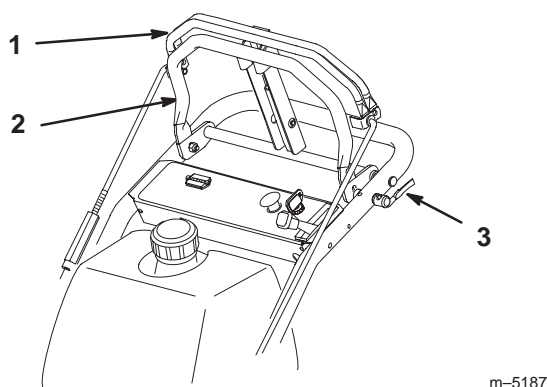

Figure 13
1. Place the quick release levers in the unlock position (Fig. 13).
3. Place the quick release levers in the lock position (Fig. 13).
1. To go forward, slowly press on the upper control bar against the reference bar (Fig. 13).
2. To go straight, apply equal pressure to both ends of the upper control bar (Fig. 13).
3. To turn, release pressure on the upper control bar side toward the direction you want to turn (Fig. 13).
4. Adjust reference bar to maintain a comfortable pre-set ground speed (Fig. 13).
5. To stop, release the upper control bar to stop both wheels (Fig. 13).
1. To go backward, slowly pull the upper control bar rearward (Fig. 13).
3. To turn, release pressure on the upper control bar side away from the direction you want to turn (Fig. 13).
4. To stop, release the upper control bar to stop both wheels (Fig. 13).
1. To stop, release the upper control bar to stop both wheels (Fig. 13).